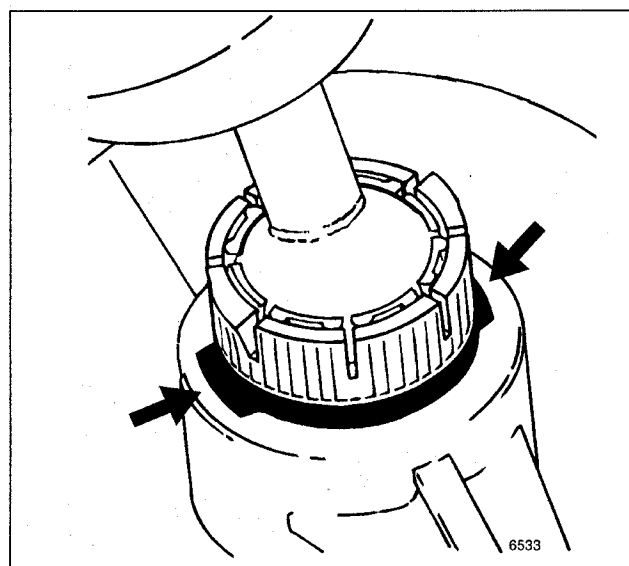

Fig. 5. Shift lever retaining ring. Fit plastic tabs into slots of shift console (arrows).
1. Install shift lever, aligning locking tabs with openings in shift console. Press down on retaining ring until it clicks into place. See Fig. 5.